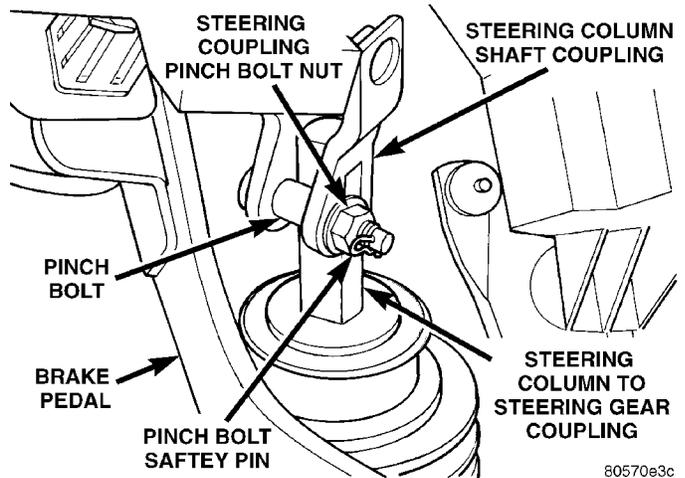

Fig. 3 Steering Column To Coupling Attachment
- (1) Remove the pinch bolt safety pin from the steering column shaft coupling pinch bolt (Fig. 3).
- (2) Loosen the coupling pinch bolt retaining nut and remove pinch bolt (Fig. 3) from steering coupler. **(Pinch bolt nut is caged to coupler and is not removable.)** Then separate the steering column shaft coupling from the steering column to steering gear coupling.
(6) Ensure front wheels of vehicle are positioned straight-ahead and then align and attach steering column to steering coupling (Fig. 3). Install the coupling pinch bolt (Fig. 3). Tighten the pinch bolt nut to a torque of 28 N·m (250 in. lbs.). **Be sure to install upper to lower steering coupling pinch bolt safety pin (Fig. 3).**